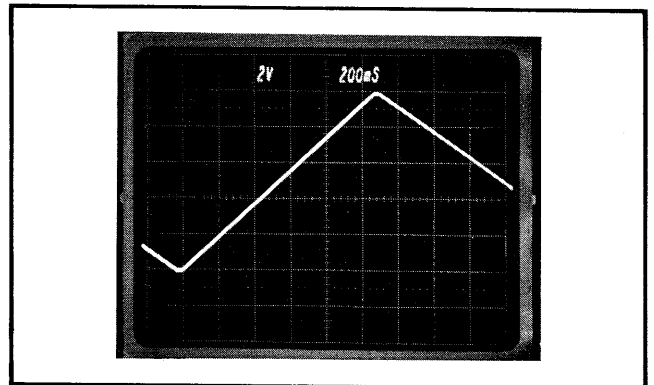

Figure 4-4. A2 Sweep Ramp, 1 s Sweep
- g. Verify that the oscilloscope displays a 1 ± 0.2 second ramp, as shown in Figure 4-4.